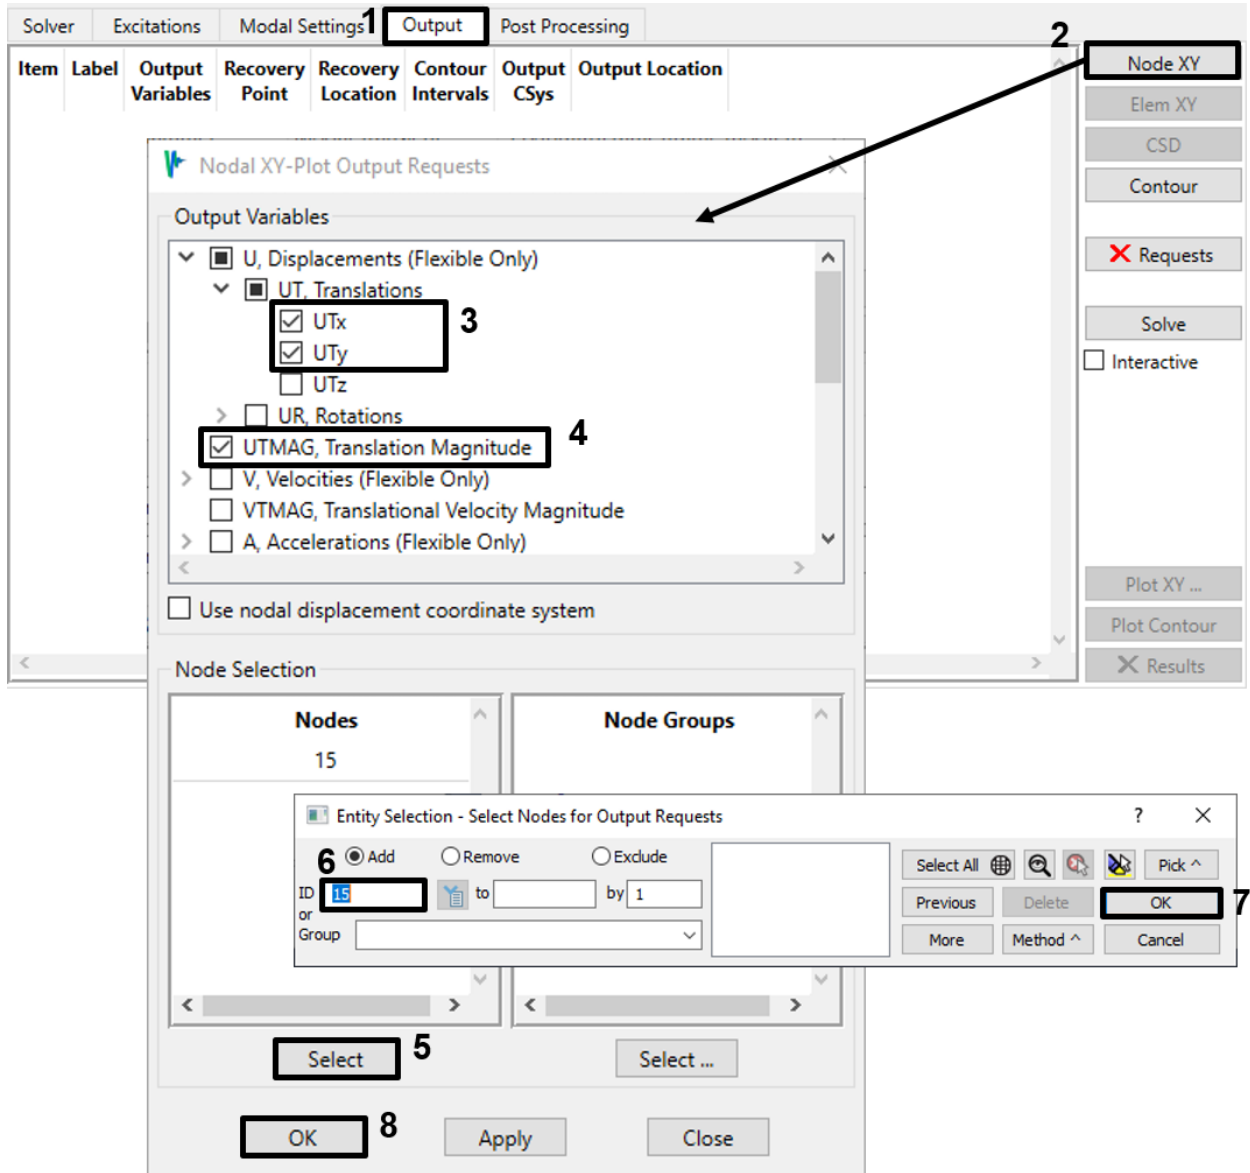

Figure 4-119. Request displacement plots for node 15.
- Go to the *Output* tab. To get a measurement of the structure's movement over time, create Nodal XY Plot output request for X and Y displacements (U_{tx} , U_{ty}) and displacement magnitude ($UTMAG$) for node 15, as in Figure 4-119.